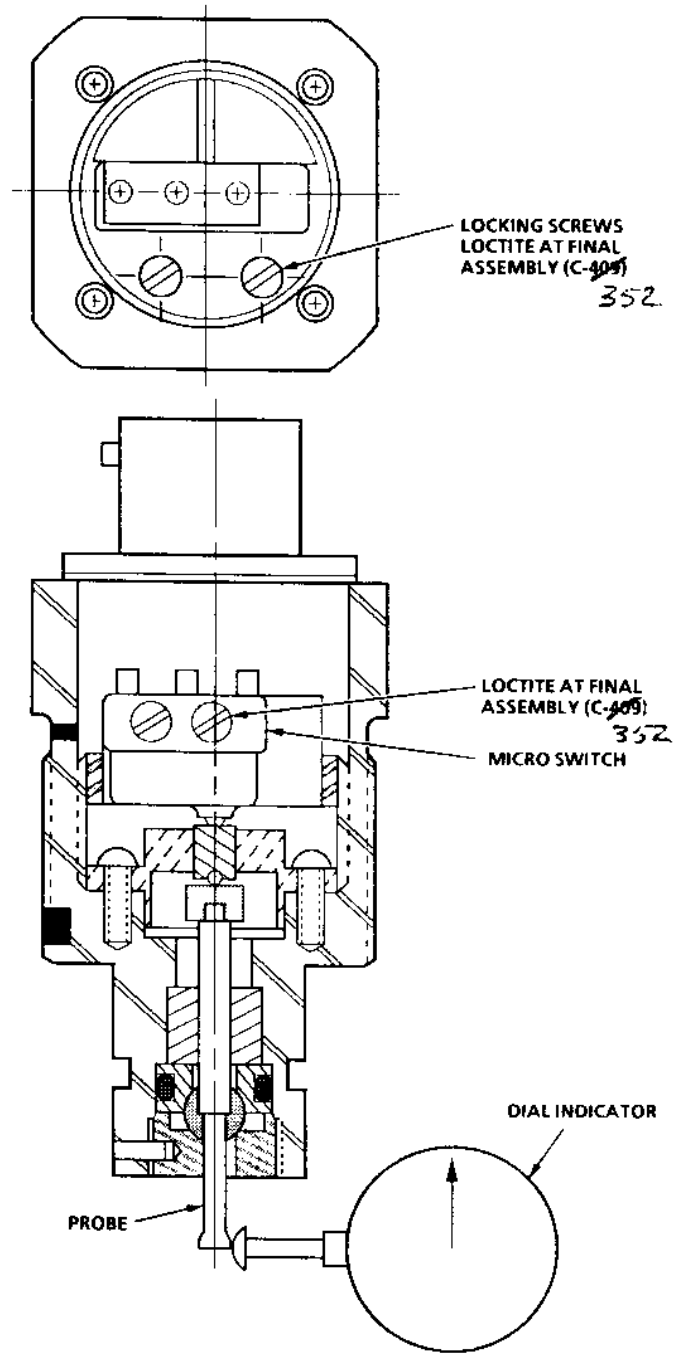

FIGURE 3
- ADDS FIGURE 3.
1. Secure the bypass indicator switch in a fixture (vise). Mount a dial indicator (± 0.050 minimum range) so that the dial indicator probe indicates against the side of the indicator switch probe (Figure 3).
1. Remove the four screws holding the electrical connector in place. Gently lift the electrical connector for access to the microswitch area. Loosen the two screws locking the switch member. Rotate the switch member while monitoring the indicator switch probe motion. When the microswitch operates per specification, tighten the two locking screws. Use locktite on screws, (refer to Figure 3). Recheck the microswitch after locking in position for proper operation.